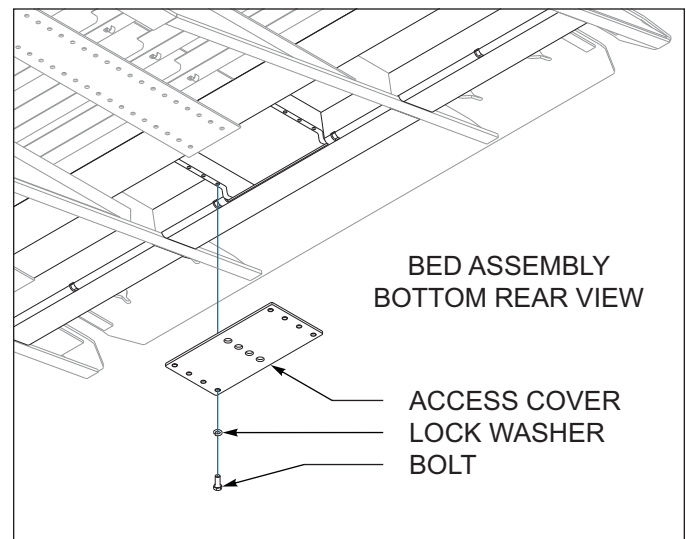

Figure 4-2: Support Idler Pulley Access Cover
13. Install the support idler pulley access cover with eight bolts and lock washers. Torque mount bolts to 55 ft-lbs (75 Nm), **See Figure 4-2.**
4. Support the support idler pulley access cover and remove eight mount bolts and lock washers, lower the cover, **See Figure 4-2.**
4. Support the support idler pulley access cover and remove eight mount bolts and lock washers, lower the cover, *See Figure 4-2*.